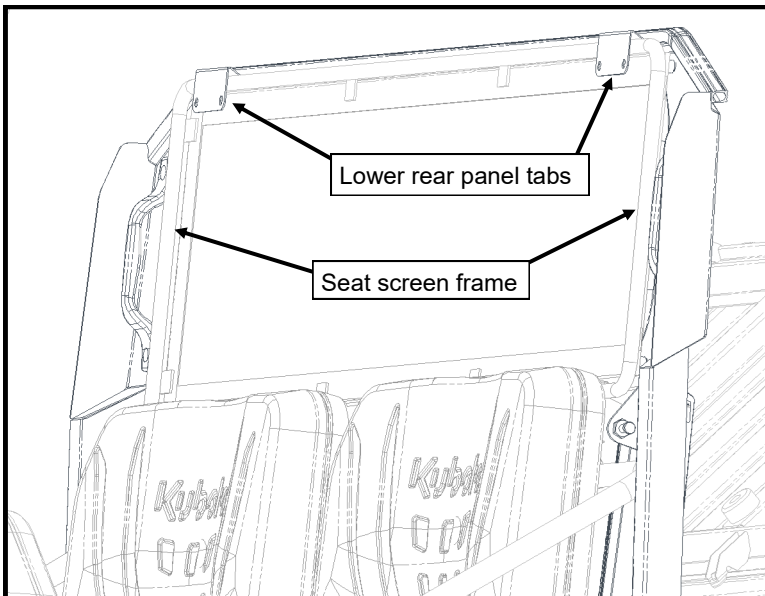
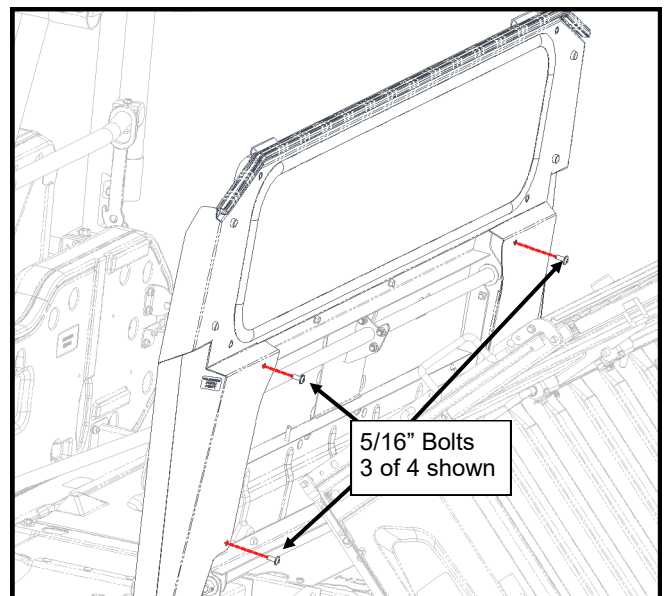

Figure 4.1: Lower Rear Panel onto Seat Screen
Figure 4.2: Lower Rear Panel onto Seat Screen
- 4.3 Place the lower rear panel onto the seat back, with the tabs at the top of the panel hooked over the seat screen frame (see Figure 4.1). Align the holes in the panel to the threaded inserts in the rear panel mounts and secure the panel with four 5/16-18 x 3/4" bolts (see Figure 4.2). Center the lower rear panel on the rear seat back and tighten the bolts snug.